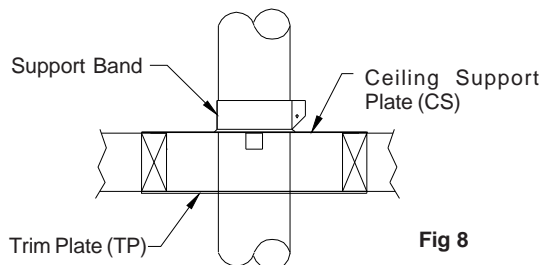

Fig 8
Determine the location where the vent will pass through the ceiling. Prepare an opening in the ceiling (See Table 1 for proper framing dimensions). From the top side of the joist, set the CS plate into the framed opening so that the 4 tabs on the plate extend down into the opening. These tabs help verify that the minimum clearance to framing is established. Nail the CS plate to the framing members (See Fig 8). If installing a Trim Plate (TP), center the TP on the ceiling (bottom side) of the opening and secure to the framing members using appropriate fasteners such as with four (4) #8 x 1-1/2" panhead black wood screws (not included). See Support Band section to complete installation.
The Support Band is used to secure the vent pipe to the plate on the CS. After the CS plate is installed, route the vent pipe up through the hole in the CS plate. Position the Support Band so that the larger, flanged edge is to the bottom and slide the support band down over the vent pipe until it is in contact with the CS plate. Using a screwdriver, tighten the bolt on the Support Band to draw the ends together and clamp to the vent pipe (See Fig 8).